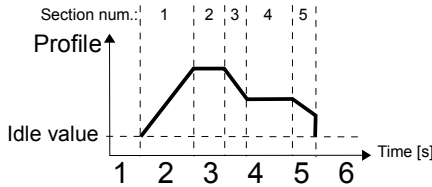

Fig. 7.109. Sample of Profile/timer
- **level (gate)** – this means that the Profile configured by the user when the source signal has the value > 0 , otherwise (if source value ≤ 0) the defined Profile will not be generated. See Fig. 7.109 and example a) in Fig. 7.110,
- **edge (once)** – this means that the Profile configured by the user will be triggered by the rising edge (from values ≤ 0 to the value > 0) of the source signal. After the rising edge the Profile will be generated in whole (once), regardless of further changes to the signal source, see Fig. 7.109 and example b) in Fig. 7.110,
- **edge (re-triggering)** – this means that the Profile configured by the user will be triggered by the rising edge (from values ≤ 0 to the value > 0) of the source signal. However, in this mode, unlike the edge (once) mode the defined Profile will be generated from the beginning every time the Triggering source signal generates an edge, whether that Profile had been completed or not. See Fig. 7.109 and example c) in Fig. 7.110,
Fig. 7.110. Samples of **Profile** output waveforms defined in Fig. 7.109, triggered by signal selected in **Triggering source** parameter for **Triggering mode: level (gate), edge (once), edge (retrig.)**